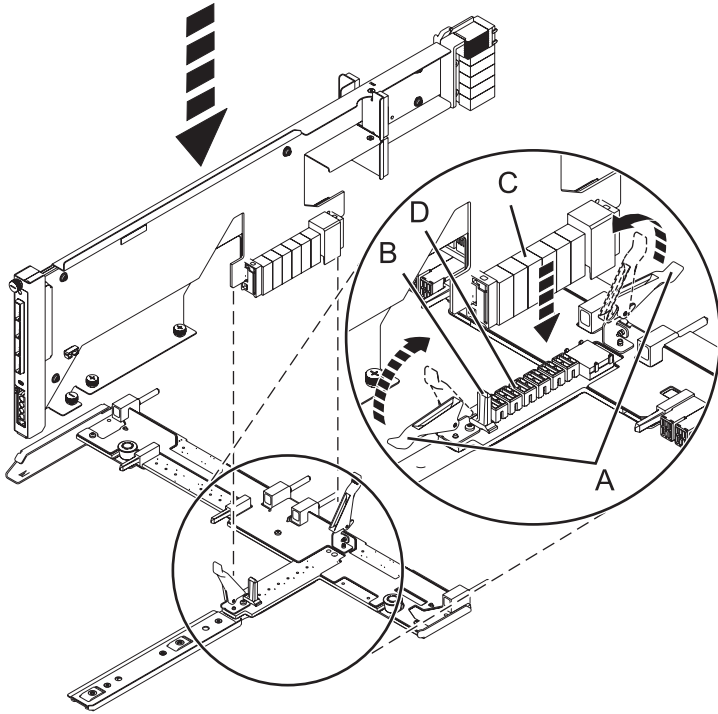

Figure 57. Installing the SAS conduit card into the midplane
- a. Place the card connector (C) on the midplane connection (D) using the guide track (B) to ensure a good connection.
- b. Lift the handle (A) to seat and secure the SAS conduit card to the midplane as shown in Figure 57 on page 78.